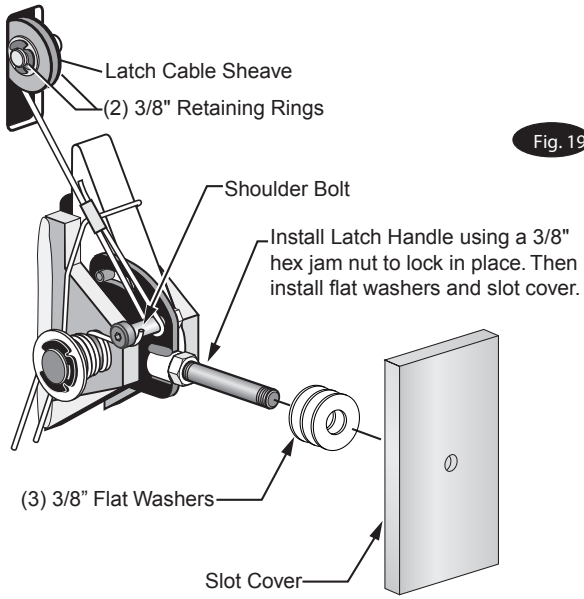
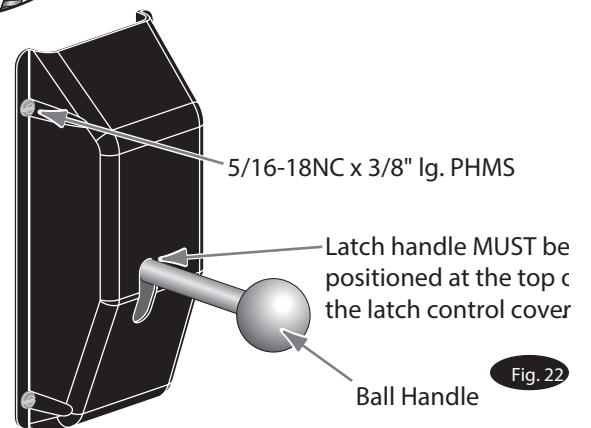

Fig. 19
Fig. 22
- A) Install latch cable sheave and retaining rings in upper slot of power unit column as shown, Fig. 19.
- B) Slip loop end of cable over end of shoulder screw on right side latch control plate, Fig. 19.
- C) Feed the other end of the cable through the latch cable sheave slot making sure that the cable is running under the bottom side of the latch cable sheave and inside the right column, Fig. 19.
- I) At this point you MUST install the latch handle, jam nut, and right column latch cover Fig. 19 & Fig. 22. Install latch handle ball, Fig. 22.